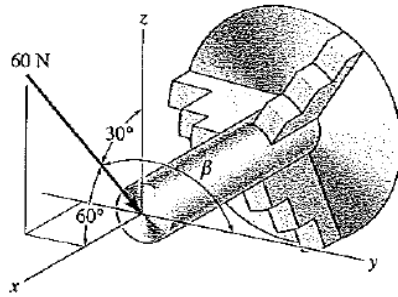

Figure 3
3. The stock mounted on the lathe is subjected to a force of 60N. Determine the coordinate direction angle and express the force as a Cartesian vector fig 3.